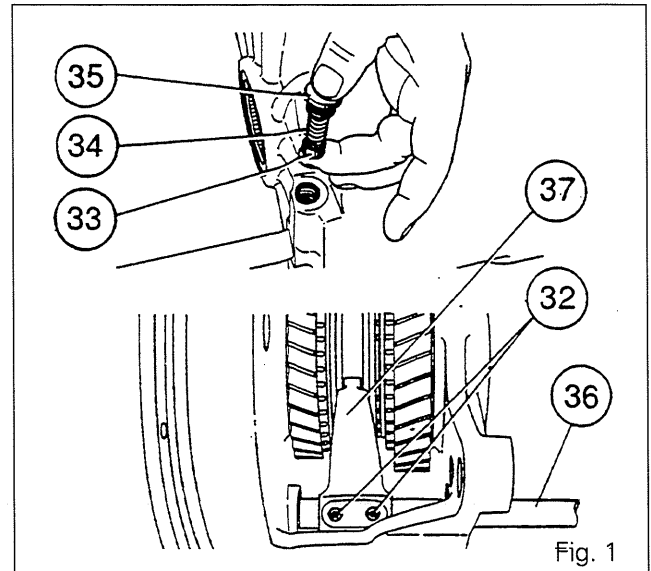

Fig. 1
2. Remove plug (35), spring (34) and locking pin (33). Remove screws (32). Remove the selector rail (36) and fork (37) (Fig. 1).